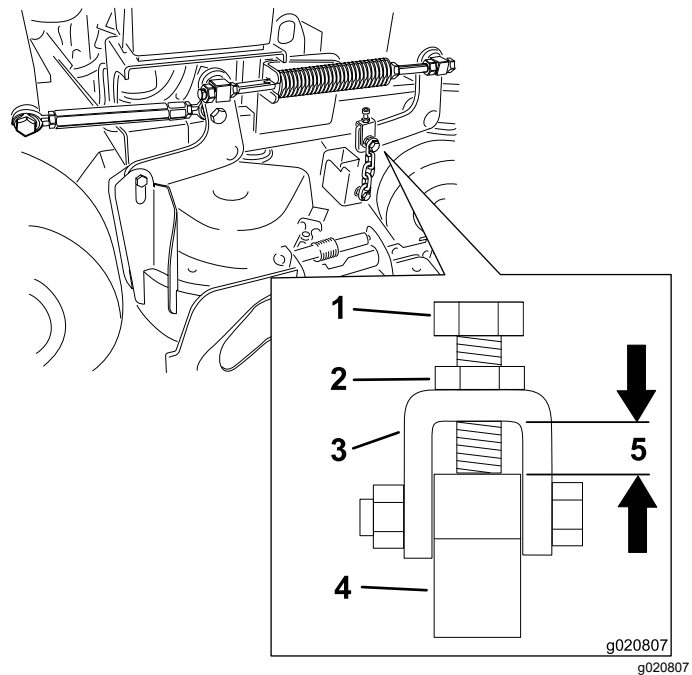

Figure 79
Note: This distance needs to be 11 mm (7/16 inch) as shown in Figure 79.
- Loosen the jam nut and adjust the adjustment bolt to achieve the correct distance as shown in Figure 79.